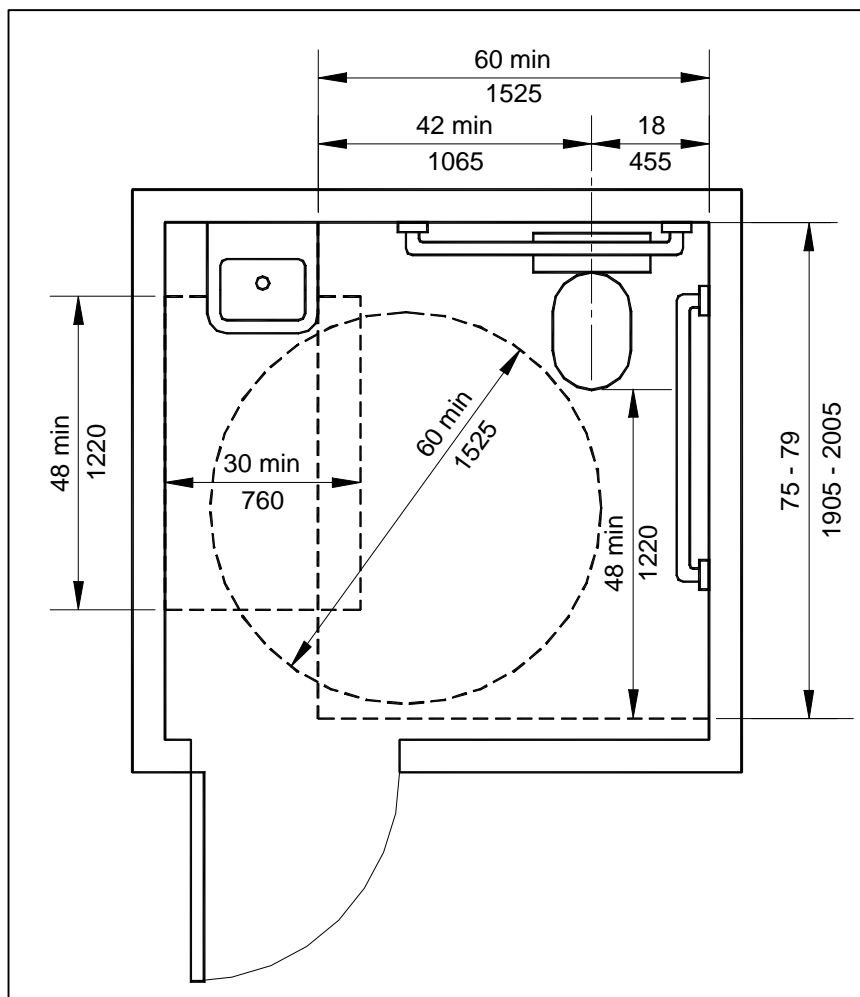

Figure 10: Typical Single User Toilet Room
Single Use Toilet Room: All fixtures in single user toilet rooms must be accessible and must be provided with an unobstructed wheelchair turning space. See Figure 10 for a typical single user toilet room.
2. **UNISEX TOILET:** A unisex toilet room (Figure 10) on the same floor as the alterations, may be installed **ONLY IF** installing a fully accessible stall in the existing toilet rooms that serve that floor involves the removal or alteration of a structural member that is an essential part of the structural frame and the existing number of fixtures must be maintained per the plumbing code. Please note: If the installation of a unisex toilet is chosen over other options, then its installation must be completed regardless of the associated computed cost limit.